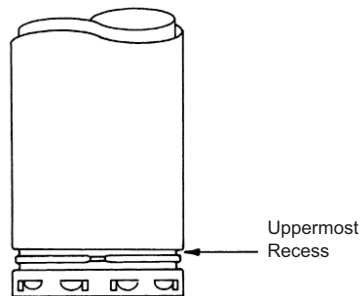

Fig. 34
2. The circular cutout in the Firestop Support Plate is designed to engage the uppermost recess in the female end of the vent pipe (see Fig. 34).